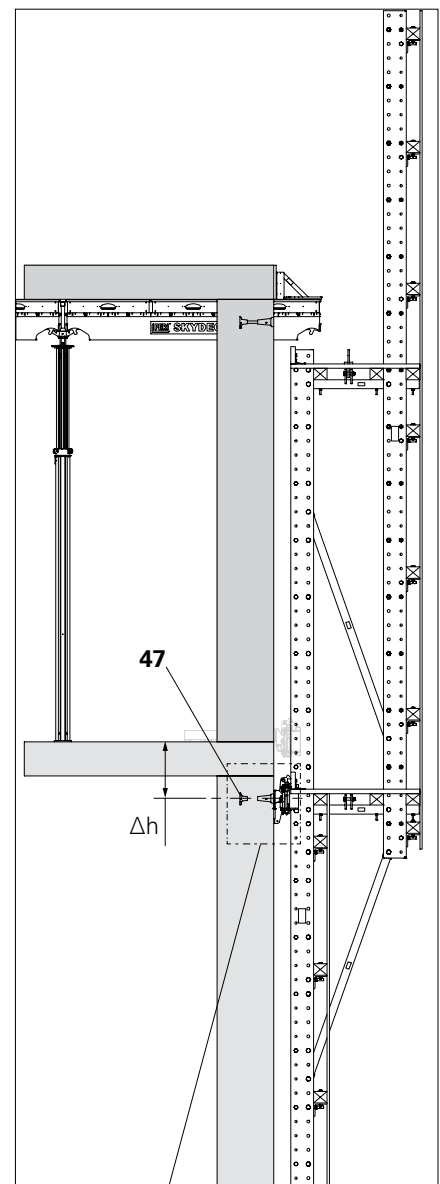

Fig. B4.02
Slab Shoes and Wall Shoes must be in the same vertical system grid. For this, the suspension of the Wall Shoe (59) is height-adjusted by  $\Delta h$  in 125-mm increments to the top edge of the slab. (Fig. B4.02 + B4.02b)